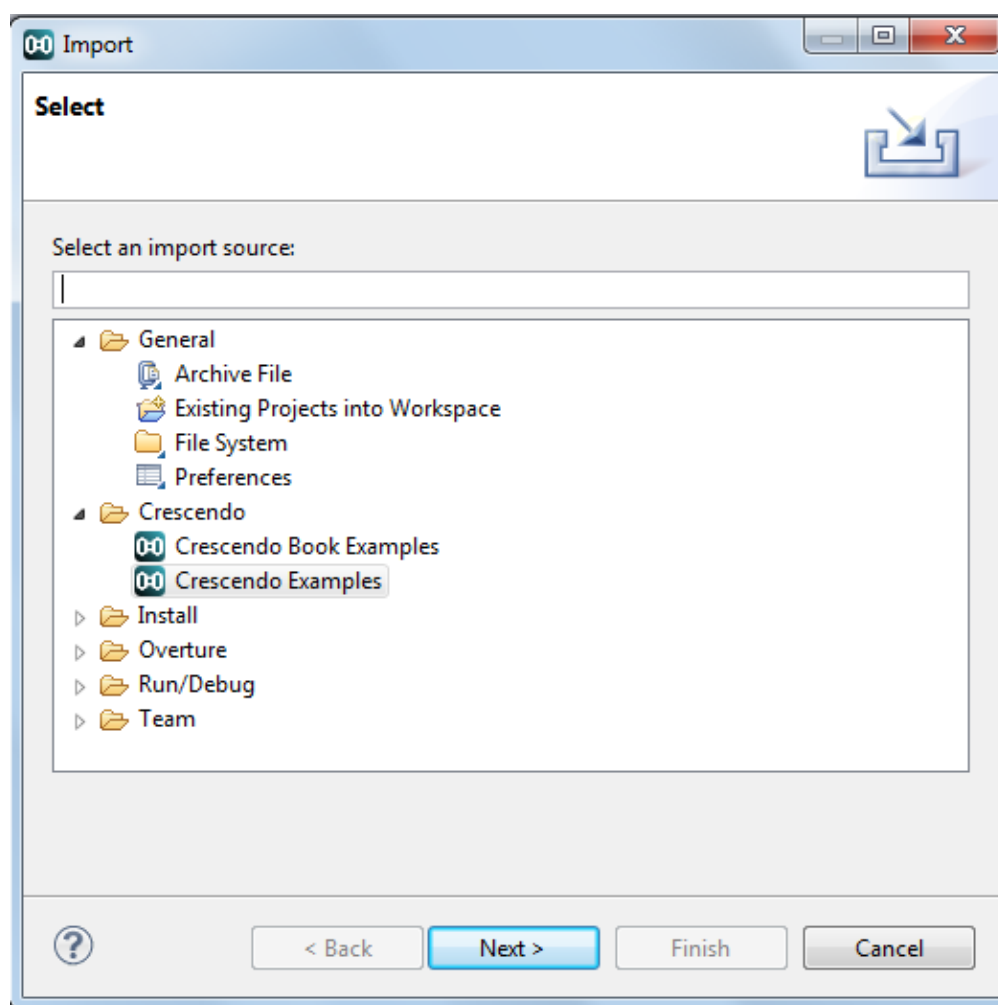

Figure 4.3: Dialog for Importing Crescendo Examples
- Select “*General and Existing Projects into Workspace*” and click “*Next*” and get a window similar to Figure 4.3.